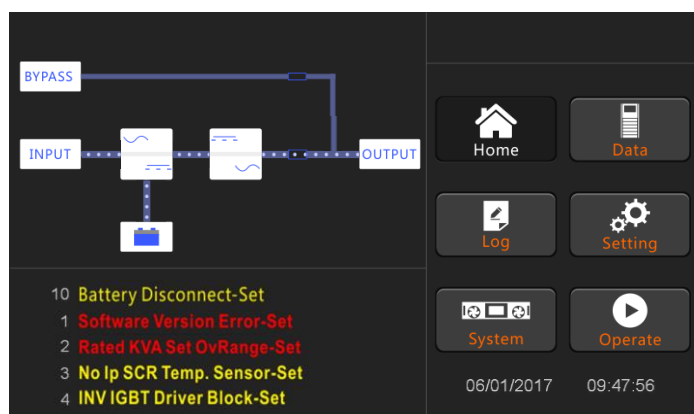

Fig.4-5 Interface of normal mode
8. Close the external battery switch, the battery indicator flashes, and then the UPS charges the battery. The UPS works in normal mode. As shown in Fig.4-5